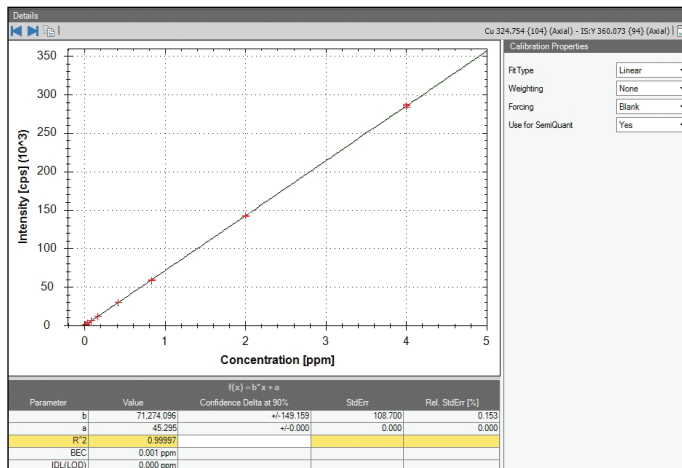

Figure 4. A 10-point calibration generated from a single stock solution using prescriptive dilution.
- In the simplest approach a single stock standard can be used to create a complete multi-point calibration line (Figure 4).
Figure 4 illustrates the basic approach of generating a 10-point calibration curve. A correlation coefficient of 0.99997 illustrates the dilution accuracy of the prepFAST Auto-dilution System at low $\mu\text{g}\cdot\text{L}^{-1}$ concentrations.